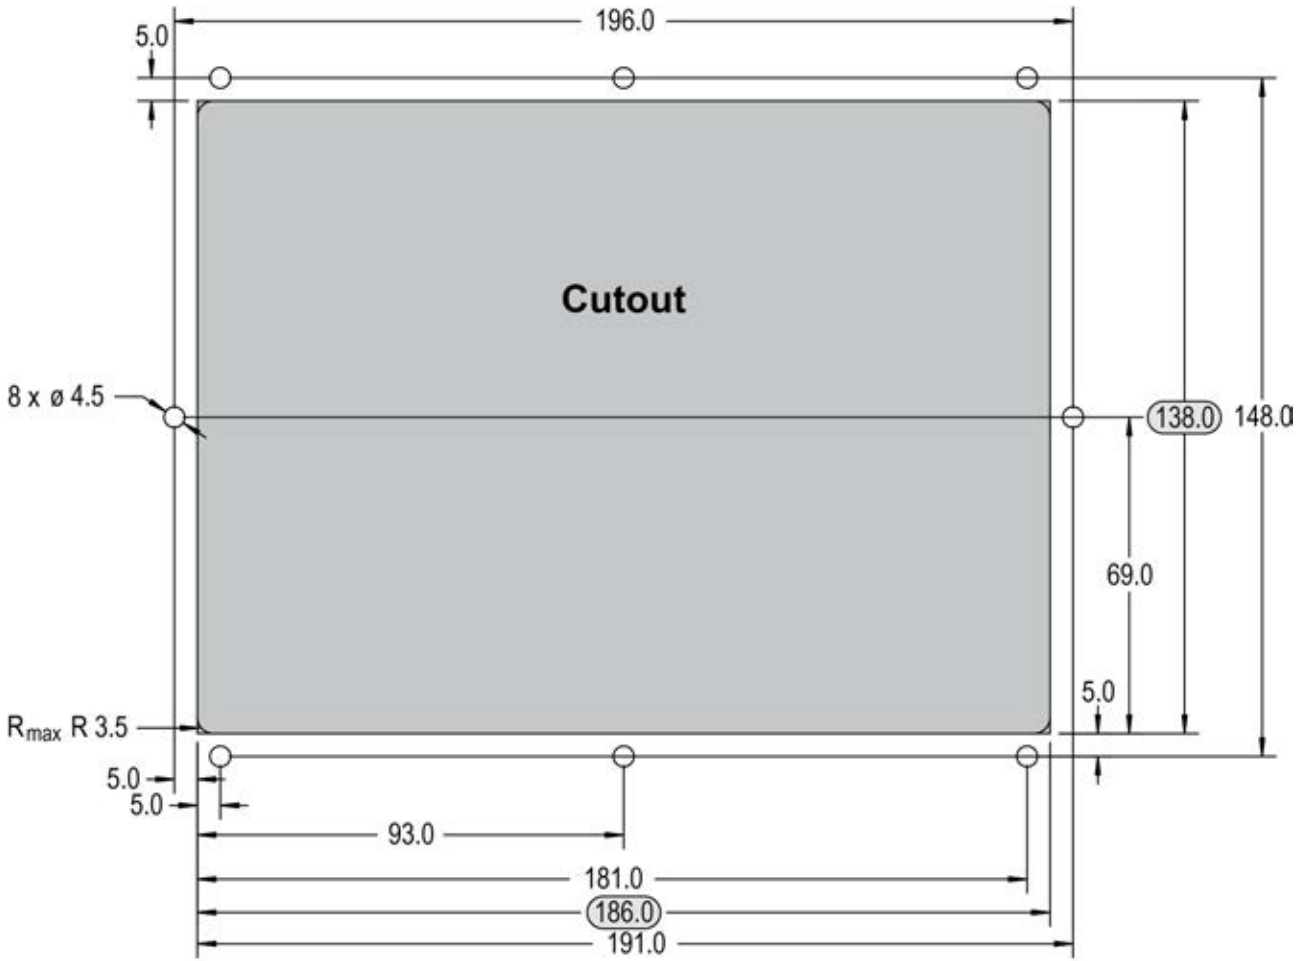

Fig. 14: Plastic housing - drill plan
The housing is equipped with 8 nut inserts (Fig. 14), which must all be tightened properly to achieve the required degree of protection.
1. ➤ Cut out the panel and drill the holes according to the dimensions in Fig. 14 (dimensions shown in mm).